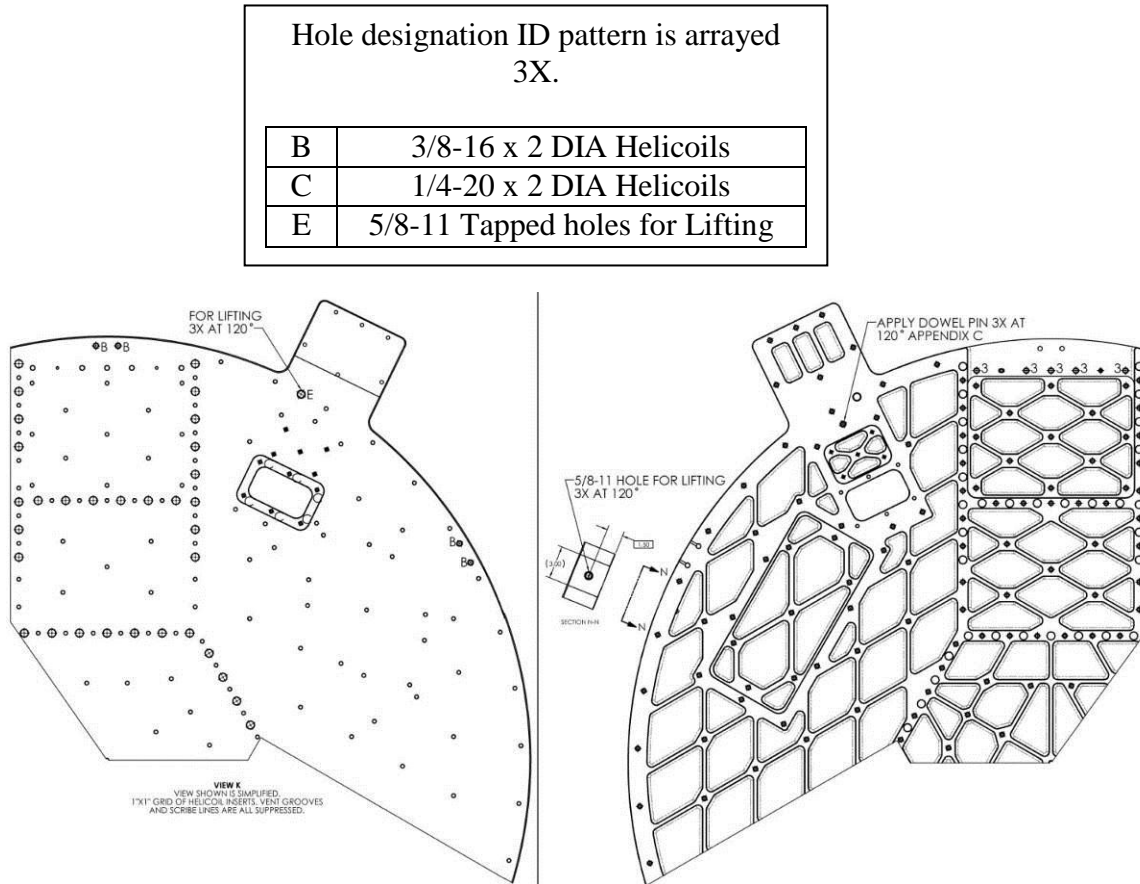
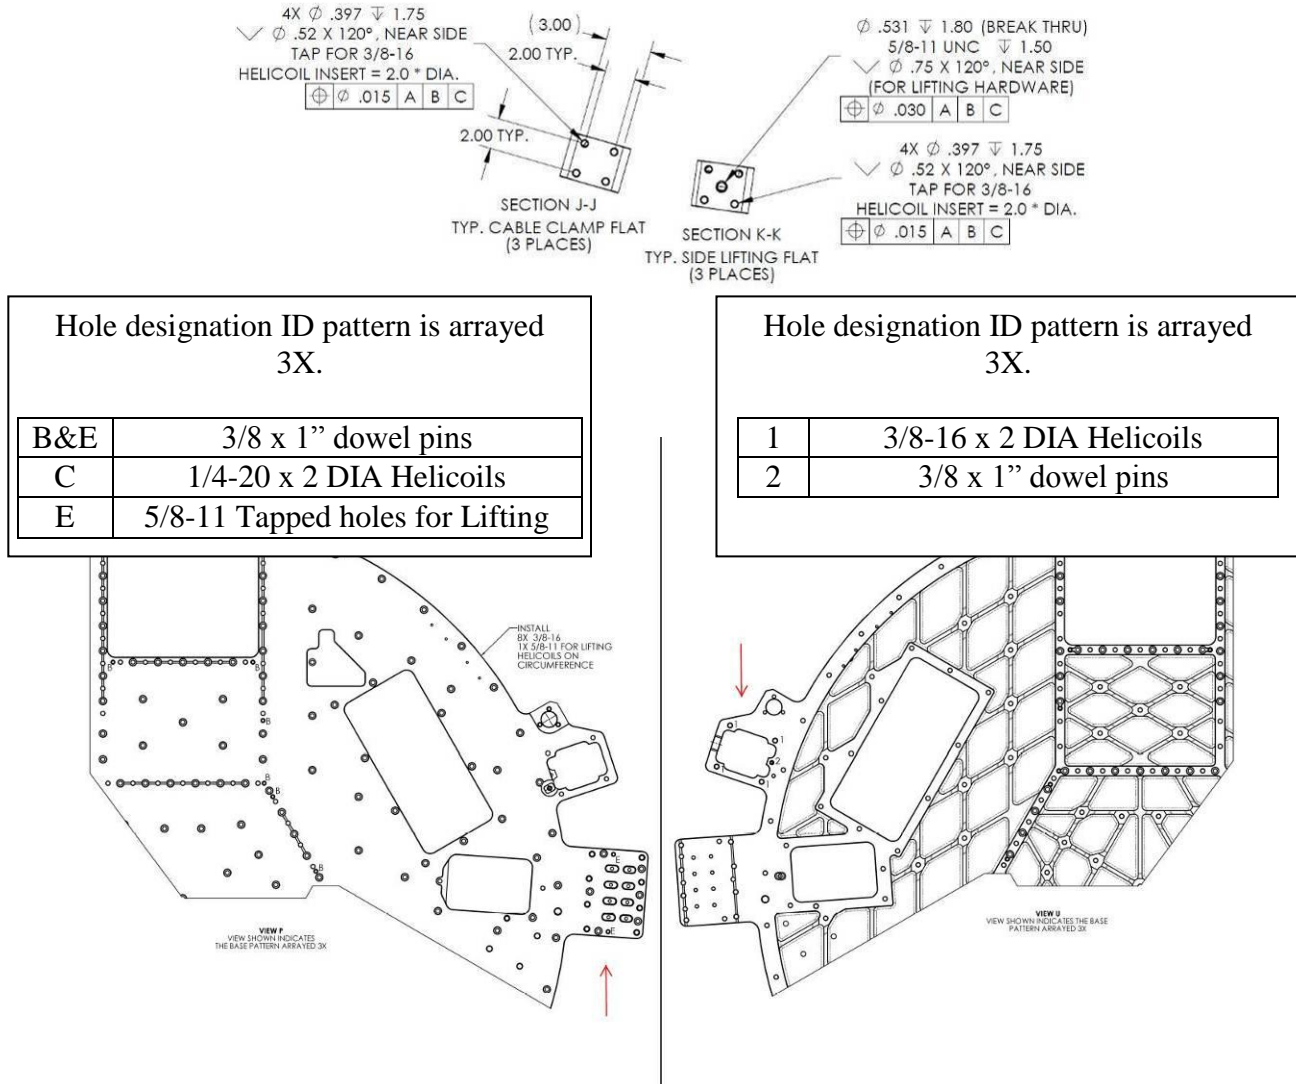

Figure 11: Prep Work for the two sides of D0901516 Solid Optical Table
Figure 12: Prep Work for the two sides of D0901517 Cut-Out Optical Table
(3) 1/2" x 1.25" dowel pins
- Place D0901516 on the granite table using level blocks, ribs side down (see left view of Figure 11).
- Flip D0901516 (ribs side up, see right view of Figure 11) following E1100146 aLIGO BSC ISI Flipping Plate Procedure
- Press (3) 1/2" x 1.25" dowel pins into D0901516. Pins should sit about 0.5" above the top surface.
(33) 3/8" x 1" dowel pins
- Place D0901517 on the granite table using level blocks, ribs side up (see right view of Figure 12).
- Press (3) 3/8" x 1" dowel pins into D0901517. Pins should sit about 0.4" above the surface.
- Flip D0901517 (ribs side down, see left view of Figure 11) following E1100146 aLIGO BSC ISI Flipping Plate Procedure
- Press (30) 3/8" x 1" dowel pins into D0901517. Pins should sit about 0.4" above the surface.